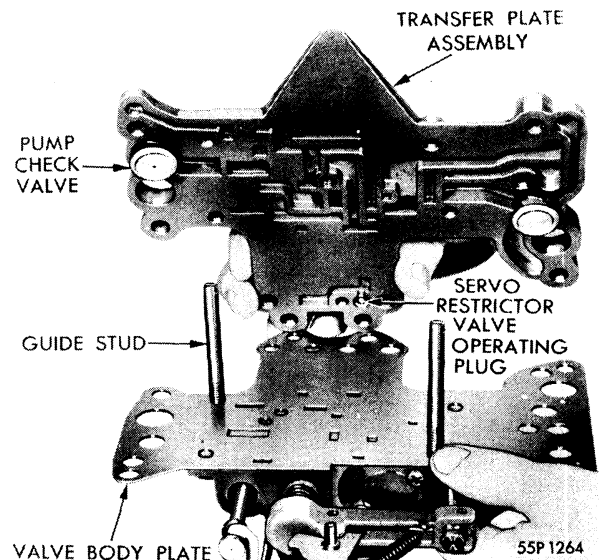

Fig. 117—Removal of Transfer Plate Assembly
- (3) Using care not to lose the servo restrictor valve operating plug from transfer plate, remove transfer plate from valve body plate. (Fig. 117.)